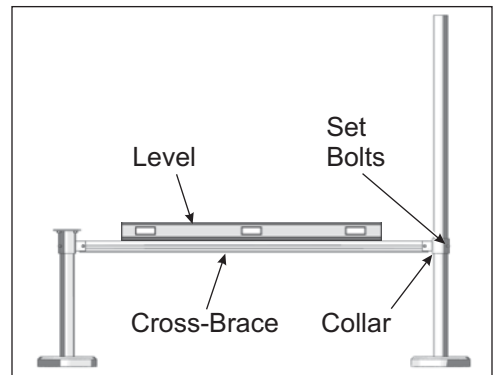

Figure 3-3: Leveling the Brace
- A. Place Level on Cross-Brace and adjust Collar up or down as needed to level Brace. (See Figure 3-3)